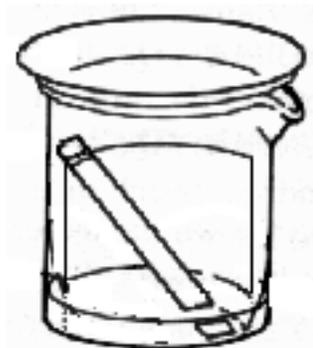

Figure 2: Developing a TLC strip
2. Stand the thin layer strip on end in the developing chamber as illustrated. Take care to ensure that the spotted portion is above the solvent level. Replace the watch glass on top of the beaker to promote even movement. The solvent moves up the strip by capillary action. (See Figure 2.)